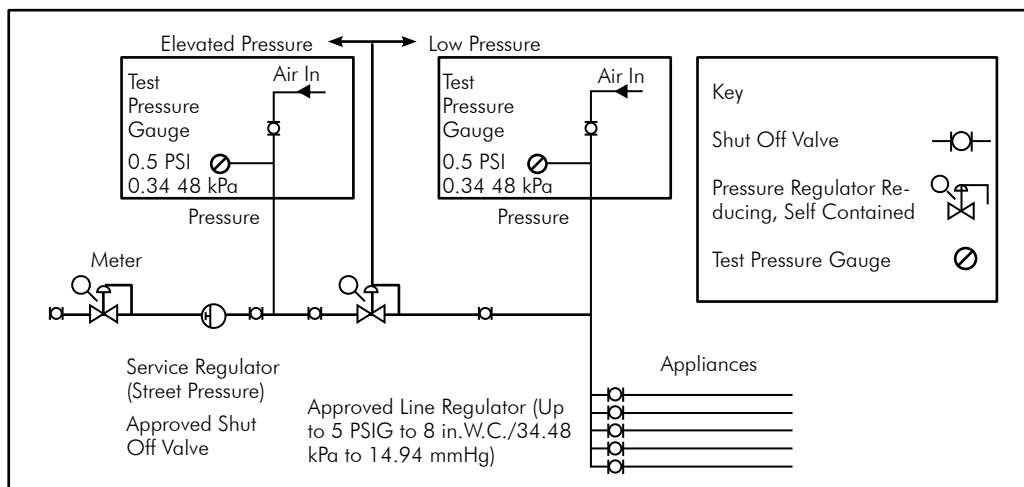

FIG. 6-1 Pressure Test Requirement for Elevated Pressure Systems
- A 2 PSI (13.79 kPa) system usually requires a pressure test of 3 PSI (20.69 kPa), depending on local code. The test may be performed as a one part test by replacing the regulator with suitable “jumper” pipe length for pressure testing the entire system. Or a two-part test may be performed as shown in **FIG. 6-1**.